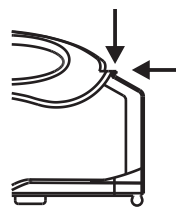

Fig. 11
- (E) Close the battery compartment door. Lift up on the two tabs until they "click" into place, See Fig. 11.